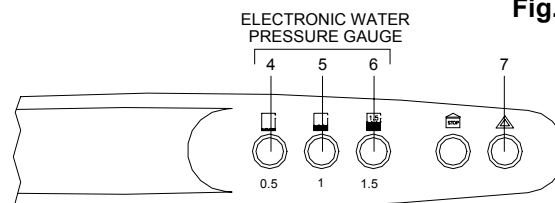

Fig. 2
- C. Insert the thermostat wires (fig.2) one in terminal TA and the other in the one next to it occupied by bridge PT which you have just moved.
SELF-DIAGNOSTIC LEGEND (see fig. 2)